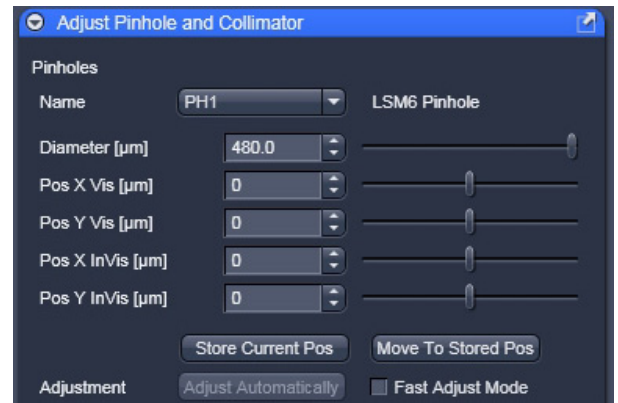

Fig. 441 Manual pinhole adjustment
- Click the LSM **Continuous** action button to start a continuous scan. Optimize the pinhole position in X, Y and Z (Z only for PH1) relative to the PMT using the **Position X [µm]**, **Position Y [µm]** and **Position Z [µm]** sliders to maximum image brightness (see Fig. 441).